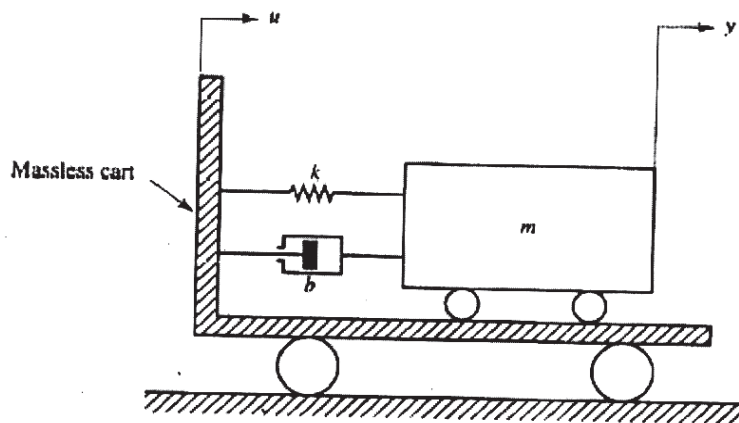

Figure 2
- Q6) a)** Consider a tank with inflow valve V1 and outflow valve V2 connected to the tank at top and bottom respectively. The level high (LH) and level low (LL) float switches are mounted at top and bottom to indicate the level. Develop a PLC ladder program to achieve the following objectives:[10]
- Q7) a)** A mass spring damper system is mounted on an massless cart as shown in Figure 2. Derive the transfer function between output y and input u . [10]